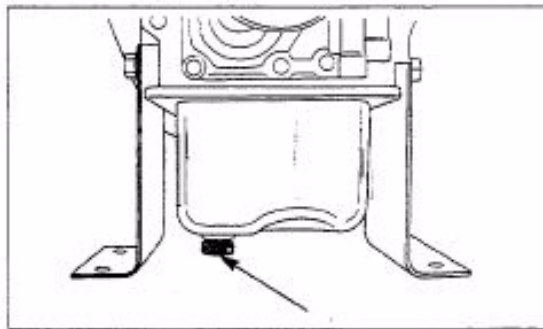

Figure 11. Engine Oil Drain Plug
5. Remove the drain plug (see Figure 11) and allow oil to drain for 10 minutes.
9. Install the engine drain plug (see Figure 11).